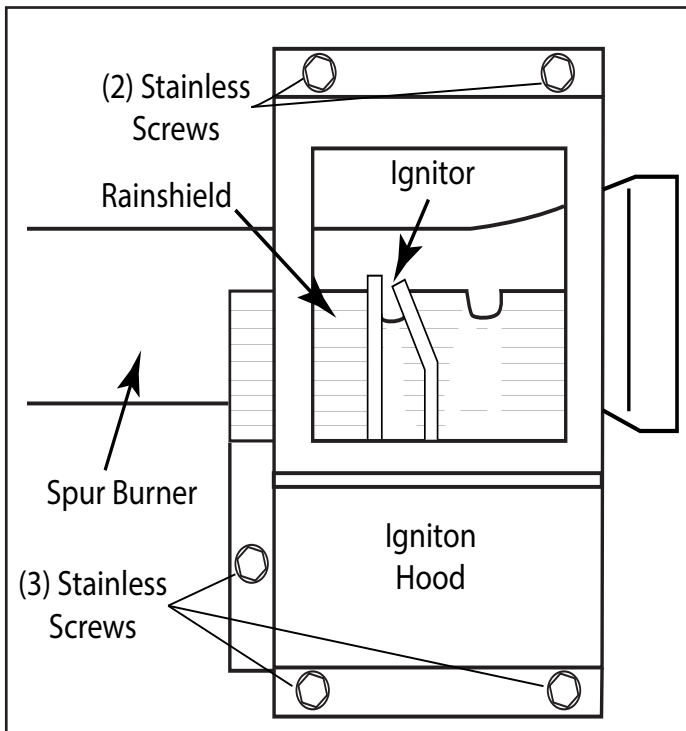

Fig. 5 Ignition hood installed; ignitor inspection.
Step 6: After securing the five hex screws into place, check top of the ignition hood to verify the probes are centered overtop of notch of the rain shield. This will provide proper ignition when using the Piezo. See Fig. 5.